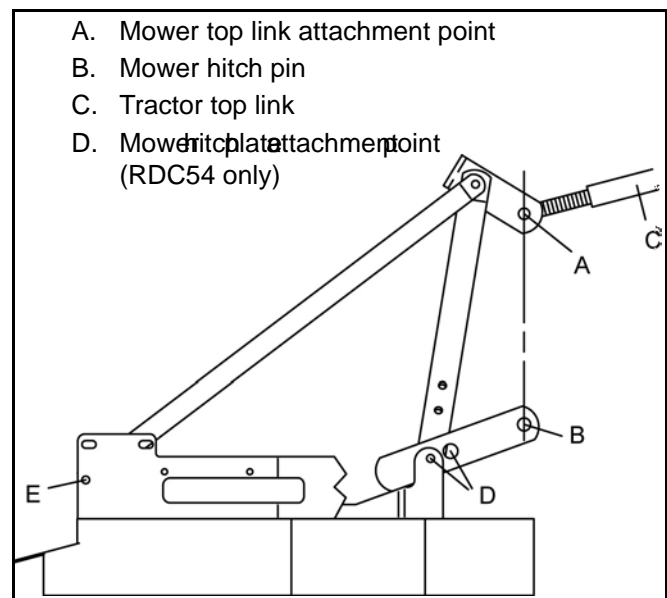

Figure 4. Top Link Adjustment
When the cutting height is set, adjust tractor top link until mower top link attachment point (A), Figure 4, is aligned vertically with mower hitch pin (B). The front tires of the mower will lift off the ground before the rear tires when the unit is raised. This will allow the mower to follow the ground contour.
3. If there is interference on RDC54 model, adjust mower hitch plate point as shown in Figure 4. On model RD60 and RD72, the hitch plate is not adjustable; see tractor operator's manual and adjust tractor wheels accordingly.